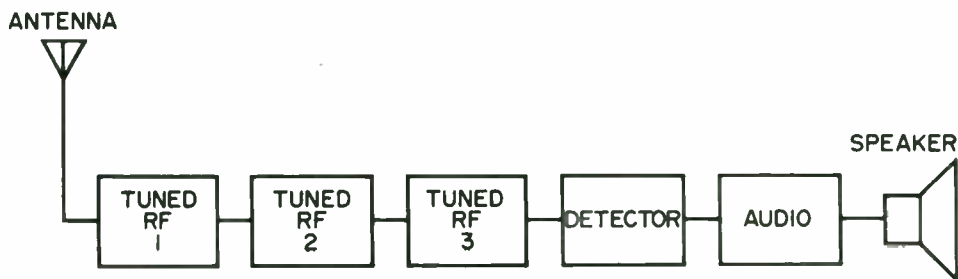

Figure 1 - Block of TRF receiver.
A block diagram of a TRF radio is shown in Figure 1. It incorporates three stages of tuned RF to provide amplification, a detector, and an audio amplifier (AF) section.